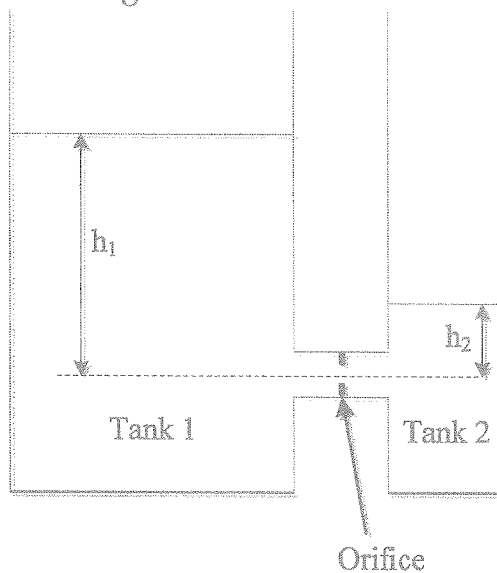

Figure Q3
- Q3. Two cylindrical tanks having diameters of $D_1 = 30$ cm and $D_2 = 20$ cm are connected as in Figure Q3 to determine the discharge coefficient of an orifice having a diameter of 5 mm. At the beginning, water heights in the tanks are $h_1 = 110$ cm and $h_2 = 15$ cm as in Figure Q3. If it takes 100 seconds to equalize the water levels in the tanks and to stop the flow, determine the discharge coefficient of the orifice disregarding other losses.